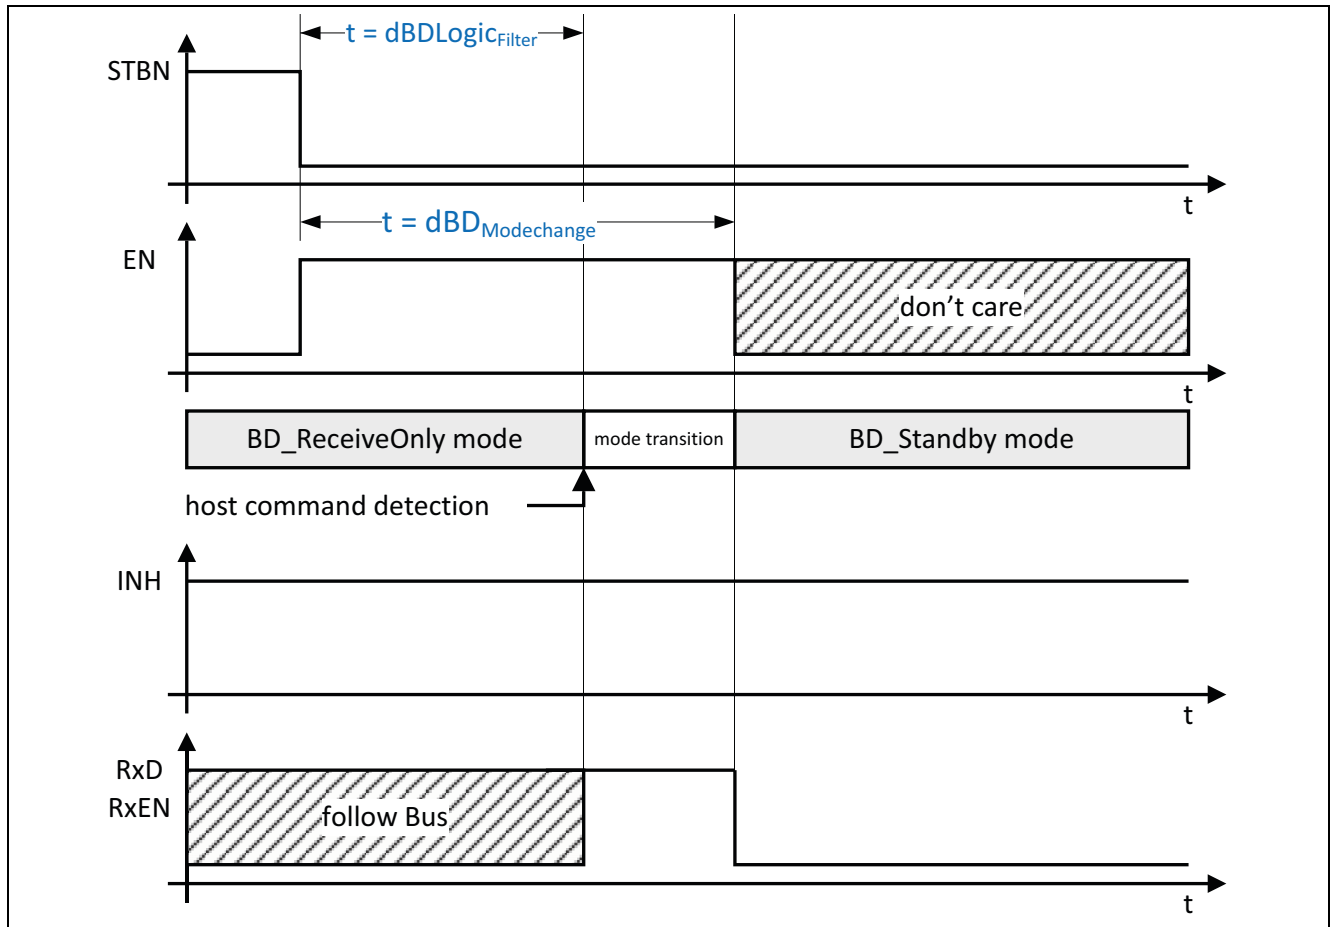

Figure 34 Changing over to BD_Standby, with an active wake-up flag
- 10) The BD_GoToSleep command cannot be executed while the wake-up flag is active (see Figure 34). The TLE9221SX changes over directly to BD_StandBy mode.
Applying the BD_GoToSleep host command to the TLE9221SX, while the wake-up flag is active, changes the operating mode directly to BD_Standby mode. The RxD and RxEN outputs are set to "low" and indicate a previous wake-up event (see Figure 34 and Table 13).